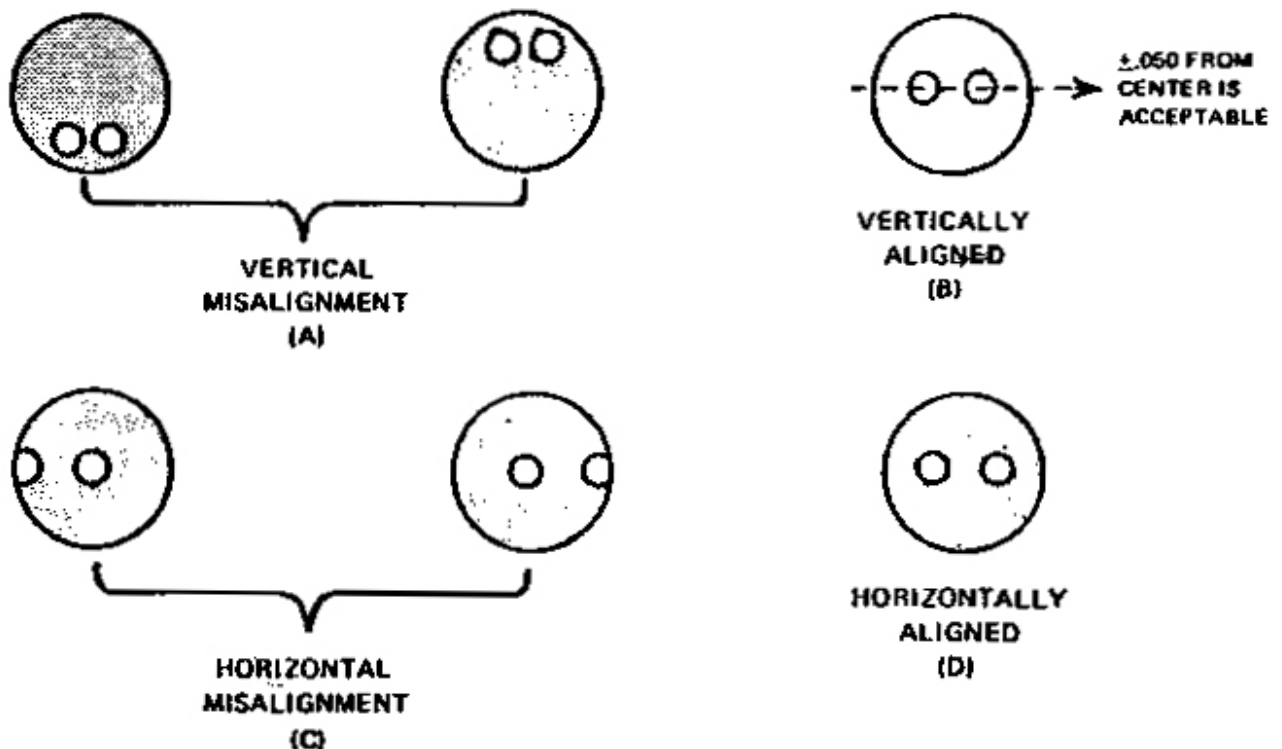

Figure 3-14 Exit pupil images
d. Raise the front of the camera about 10° and note two bright circles against a dark background. Both circles should be vertically positioned $\pm .050$ ” from the center as shown in Figure 3-14 B.
e. If the circles are not centered vertically (Figure 3-14 A), perform the erecting link adjustment in Section IV.
f. If the circles are displaced horizontally (Figure 3-14 D), make the side to side adjustment of the Fresnel carrier which is included in Section IV.